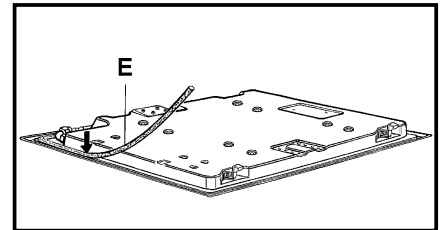

FIG. 5
- Turn over the hob and correctly position seal "E" (fig. 5) under the edge of the hob itself, so that the outer part of the seal itself perfectly matches the outer edge of the hob. The ends of the strips must fit together without overlapping.